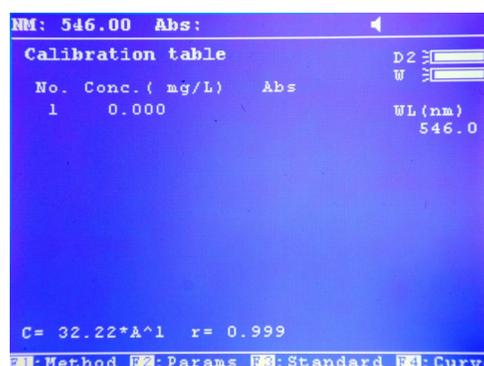

Fig. 3-8
**Standard curve:** Press  to enter the standard curve operation interface (Fig. 3-8), continue the next setup.
Press **F1** to enter the unit setup, press **▲** or **▼** to select the unit and press **ENTER** to confirm the setting. Then press **F2** to enter the standard curve operation interface (Fig. 3-8). Press **F1** to enter the method setup, press **▲** or **▼** to select "Linear fit" (for example) and press **ENTER**. Then press **F3** to enter the standard setting interface (3-9), it shows "Edit the number...", the cursor points to the setting position, press **ENTER**, it shows "Input standard Conc:", input the concentration value and press **ENTER** to make sure the input, then input the next value accordingly. Press **ESC STOP** after completing all the standards setting.